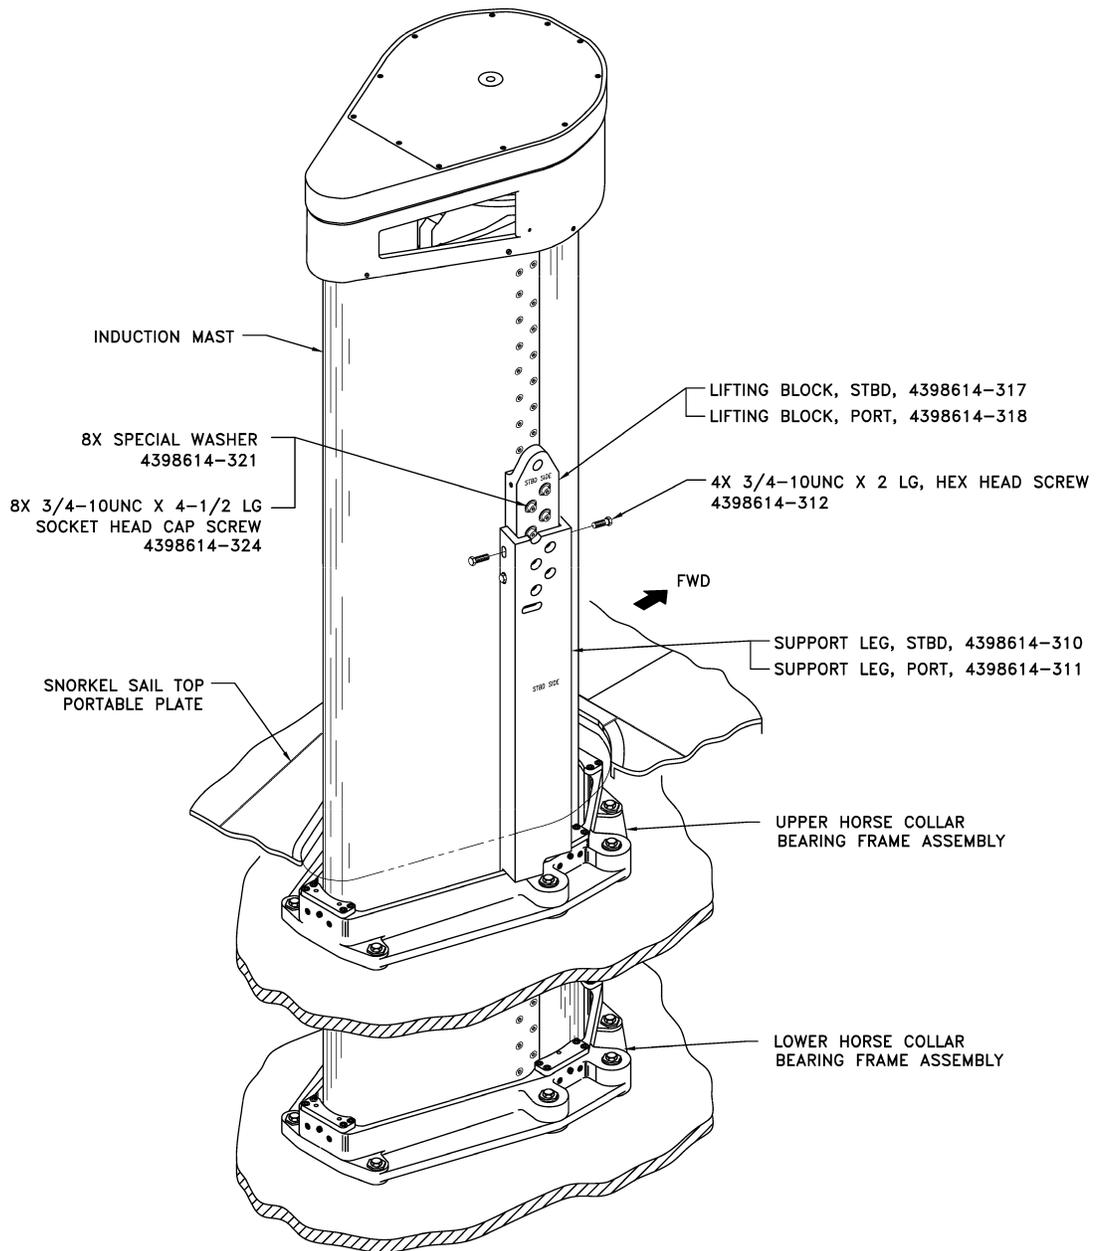

Figure 3-9 Lifting Block Supported by Bearing Frame via Support Legs
- g. If the mast is required to be positioned in the "FULLY-RAISED" position, install the support legs (NAVSEA Dwg 4398614-310/311) using cap screws (NAVSEA Dwg 4398614-324) lubricated with Molykote M-77 or equivalent and special washers (NAVSEA Dwg 4398614-321) and retest as directed above. Measure gap between the lifting blocks, support legs, and shim as required to achieve solid contact between lifting blocks and support legs. This is to be accomplished each time the support legs are used. (See Figure 3-9.)